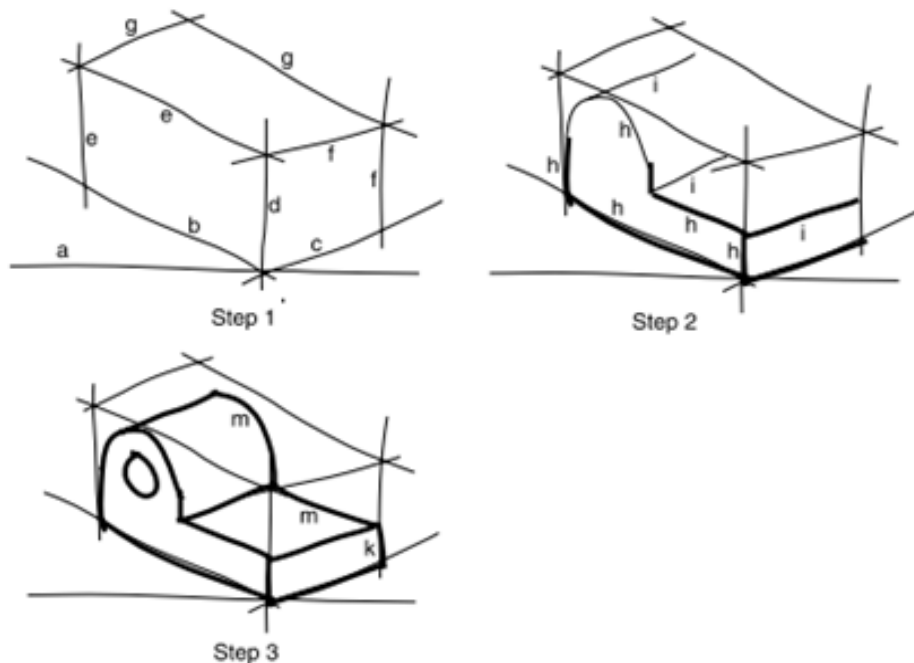

Fig. 3.34: Making an isometric sketch (Teachers Manual)
- Sketch the outline of the front face in its “block” and the other faces follow. Work parallel to the isometric axes as shown in Fig. 3.34.